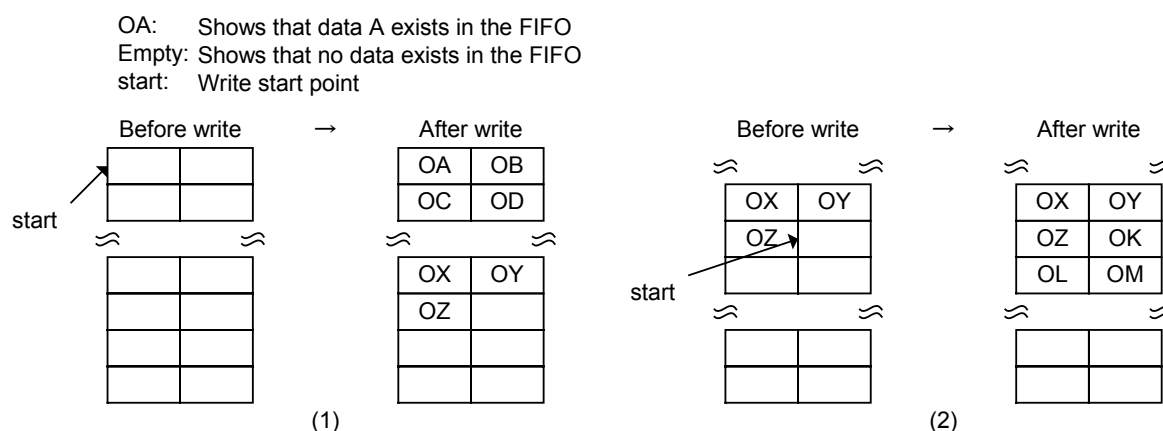

Fig. 6.72 FIFO write processing (normal operations)
If odd data is found present after data was written wordwise from a byte boundary nonexistent state by setting the AREAnFIFO_Clr register bit, etc., make sure that only the last byte of consecutive data (i.e., data Z) is written to the High side. This state is shown in (1) of Fig. 6.72. The data is output from the USB, etc. in order of A, B, C, D, ... X, Y, and Z.
To write data while the FIFO has a byte boundary in it, first write data to the Low side (write of data K) to eliminate the byte boundary and then write data wordwise (data L and M). This state is shown in (2) of Fig. 6.72.